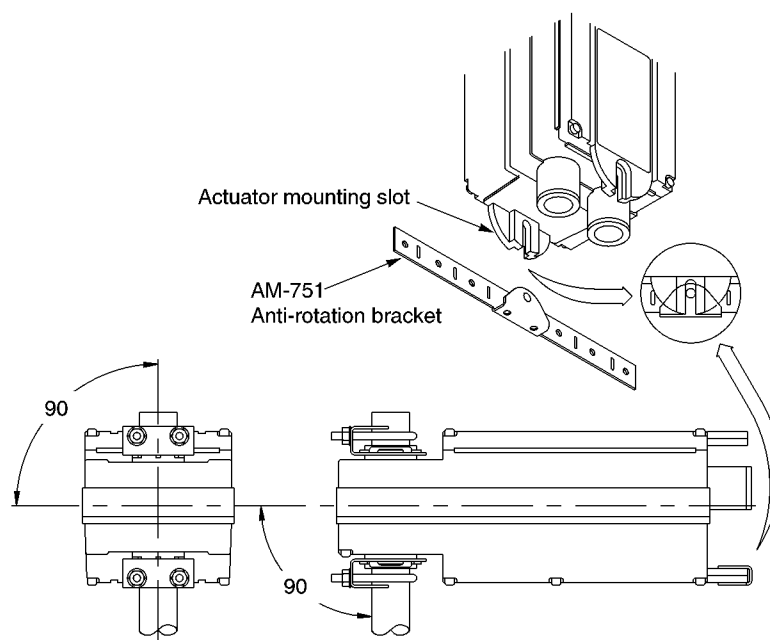

Figure-12 Mounting Anti-rotation Bracket to Actuator.
4. Align the actuator at 90° (perpendicular) to the damper shaft. See Figure-12.
5. Slide the anti-rotation bracket pin into the mounting slot on the actuator and drill mounting holes. See Figure-12. For narrow spaces the AM-752 anti-rotation bracket is recommended (order separately).
6. Assemble the damper actuator onto the universal shaft extension, allowing the extension to slide through the actuator's universal mounting clamps. Make sure the actuator is 90° (perpendicular) to the damper shaft. Then, hand tighten the nuts on both of the actuator's universal mounting clamps. See Figure-12
7. Slide the anti-rotation bracket pin into the mounting slot on the actuator. See Figure-12. For narrow spaces, the AM-752 anti-rotation bracket is recommended (order separately).